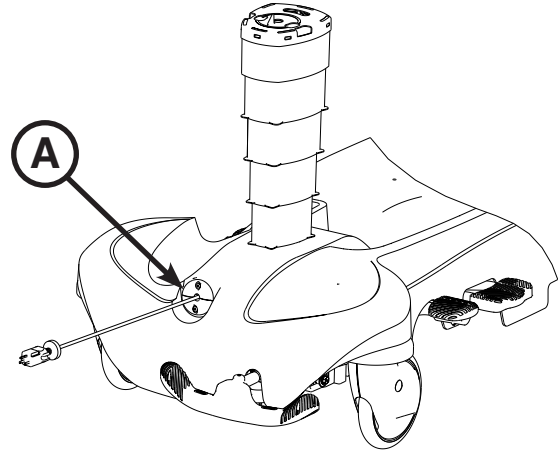

Figure 31: Optional Retractable Cord Reel
The retractable cord reel (A) stores the stretcher power cord during transport as shown in Figure 31.